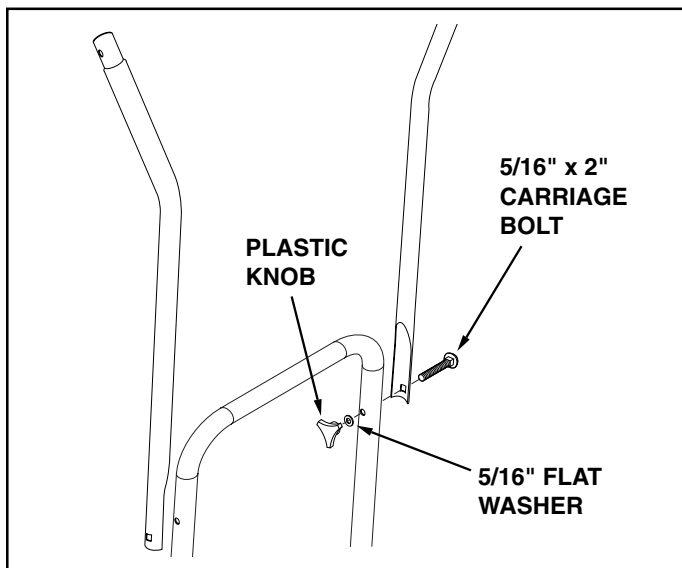

FIGURE 6
11. Assemble the upright tubes to the base assembly using two 5/16-18 x 2" carriage bolts (from outside) and two 5/16" flat washers and plastic knobs (from inside). See figure 6.